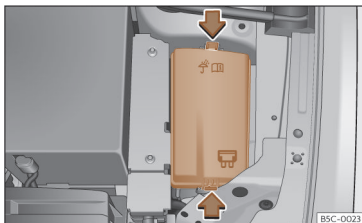

Fig. 53 In the engine compartment: fuse box cover.
- Press the locking tabs to release the fuse box cover»» Fig. 53.